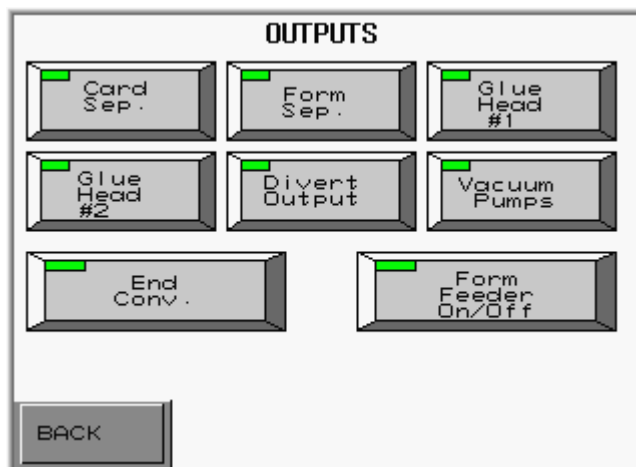

Figure III-23
8. The **OUTPUTS** SCREEN is now displayed on Human Machine Interface (HMI). See figure III-23.